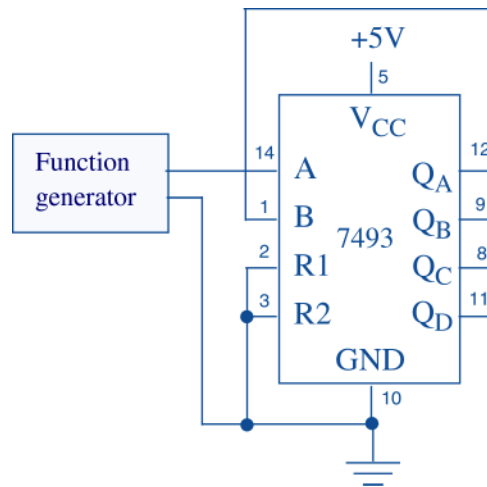
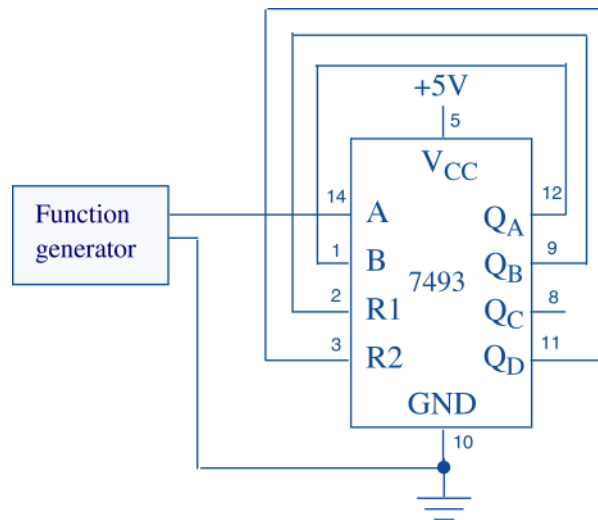

Figure A.4-1 Logic circuit to be used for generating the electrical signals which represent number sequence 0000_2 through 1111_2 .
Figure A.4-2 Logic circuit to be used for generating the electrical signals which represent number sequence 0000_2 through 1111_2 .
- 2.3.1 Use the Altera's schematic capture tool to prepare your own copy of the logic circuit diagram shown in Figure A.4-1 of this assignment and show it as Figure 2.3-1(a).
- 2.3.2 Design a physical layout of the logic circuit shown in Figure A.4-1; show a computer generated drawing of the layout as Figure 2.3-1(b). Include IC package pinouts on both drawings of Figure 2.3-1.
- 2.4.1 Use the Altera's schematic capture tool to prepare your own copy of the logic circuit diagram shown in Figure A.4-2 of this assignment and show it as Figure 2.4-1(a).
- 2.4.2 Design a physical layout of the logic circuit shown in Figure A.4-2; show a computer generated drawing of the layout as Figure 2.4-1(b). Include IC package pinouts on both drawings of Figure 2.4-1.
- 4.1.1 Insert the IC 7493 into the protoboard. Using the physical layout prepared in Figure 2.3-1(b) of the Prelab assignment, establish the connections shown in Figure A.4-1.
- 4.1.3 Connect the digital channels D0 through D4 of the Mixed signal oscilloscope Agilent 54645D to the circuit shown in Figure A-4.1:
- 4.2.1 Using as a reference the physical layout prepared in Figure 2.4-1(b) of the Prelab assignment, change the connections on the protoboard so that the circuit shown in Figure A.4-2 is established. The new circuit counts the number of pulses applied to the pin number 14, and shows the count at the outputs Q_A , Q_B , Q_C , and Q_D in BCD number representation.
- Which of the output signals at Q_B , Q_C , and Q_D have their waveforms different from those observed in the circuit of Figure A.4-1, and which ones have the same waveforms?
Hint#3: The only difference between the pulse counting circuits shown in figures A.4-1 and A.4-2 is in the connections applied to the pins R1 and R2 of the 7493. Obviously, those connections affect the base (radix) in which the output signals represent the count of pulses applied to input A: the connections of the circuit in Figure A.4-1 produce the output in base two, and the connections of Figure A.4-2 produce the output in binary coded decimal form.
Now is the time for an adventure! You do not know the internal circuit connections within the IC 7493, so you do not know which external connections to the inputs R1 and R2 (but those shown in figures A.4-1 and A.4-2) will cause which base (radix) representation to be shown at the outputs Q_A , Q_B , Q_C , and Q_D . Using the experimental techniques that you have exercised in Sections 4.1 and 4.2, find out the circuits which will function as described in Sections 4.3.1 and 4.3.2, and record their connections and waveforms.